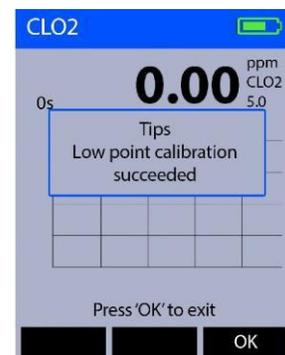

Figure 12.
8. The message “Low point calibration succeeded” will appear on the display (Figure 12).
9. Press (OK) to exit.